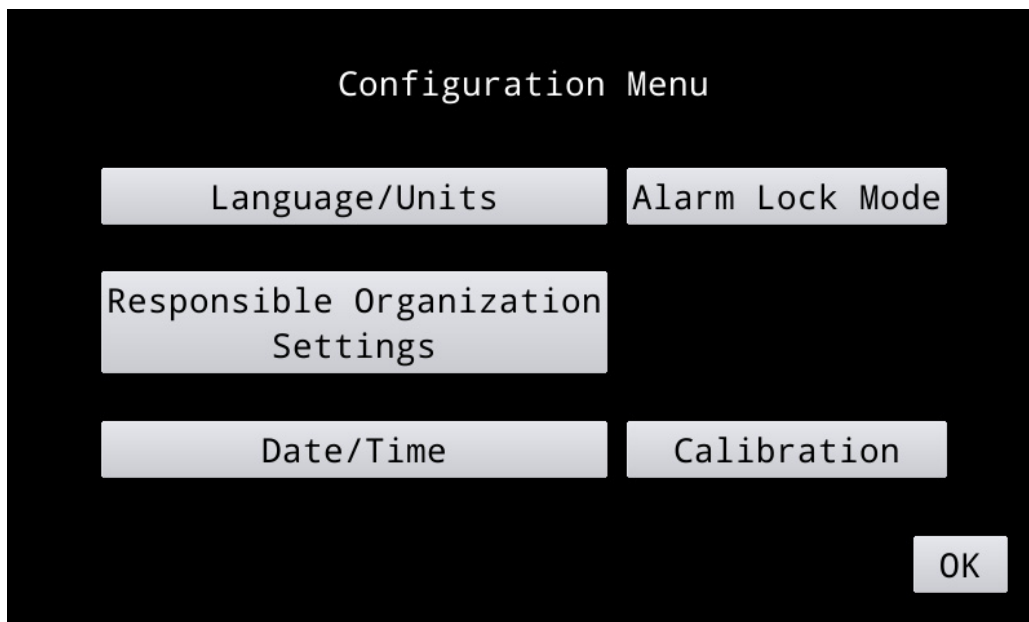

Figure 8. Configuration Menu
4. Configuration Menu (figure 8) displays.